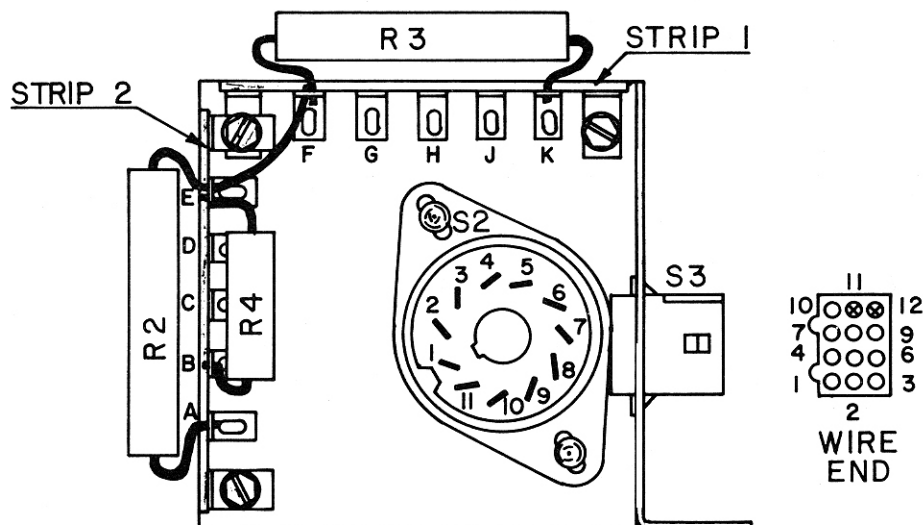

Figure 5. Console Connector Wiring Locations
1. If the kit is being used with a LESLIE speaker that does not contain an amplifier, lift the brown wire from contact E on strip 2 (see figure 5) and connect it to contact A of the same strip.